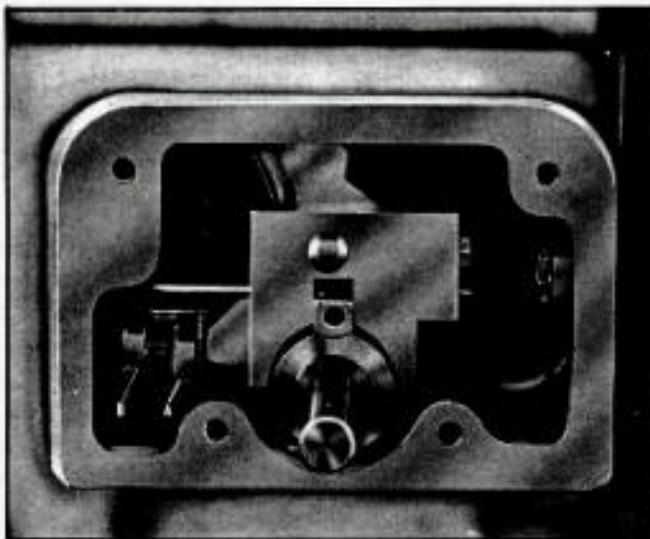

Fig. 20.
5. Make clutch adjustment by loosening lock nut (A) and turning screw (B) Fig. 20.
7. Tighten lock nut (A) Fig. 20, and reassemble handle and cover.